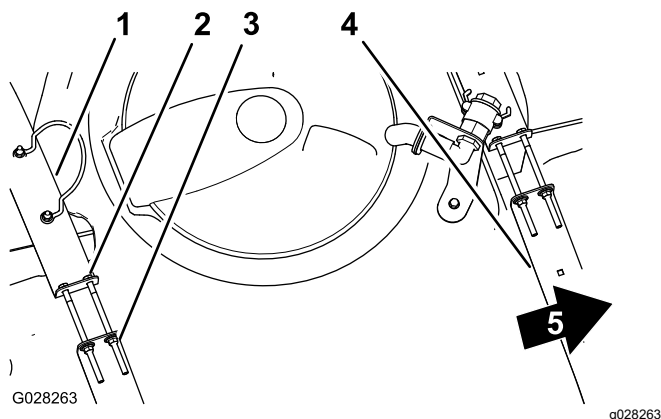

Figure 72
2. Check to see if there is any movement between the tank straps and the tank (Figure 72).
3. If the tank straps fit loose to the tank, tighten the flanged locknuts and bolts at the top of straps until the straps are flush with the surface of the tank (Figure 72).